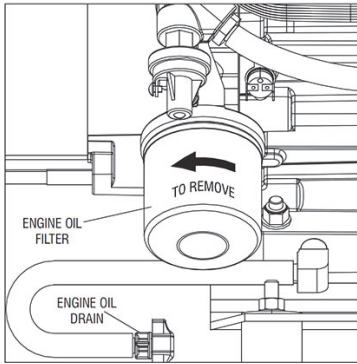

Figure 4-2: Oil Filter and Drain Location
4. With the oil drained, remove the old oil filter by turning it counterclockwise. For filter location, see Figure 4-2.